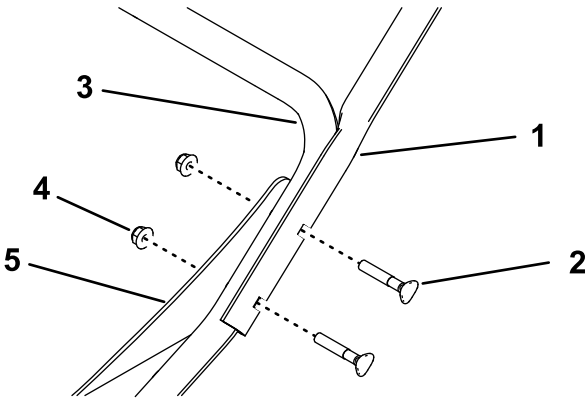

Figure 4
1. Install the upper handle tubes to the lower handle and braces using 2 handle bolts and 2 nuts (5/16 inch) on both sides of the machine (Figure 4).